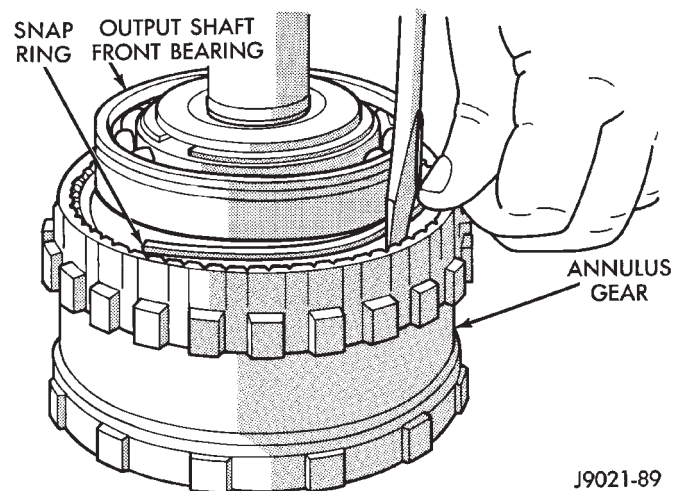

Fig. 277 Annulus Gear Installation
(3) Install annulus gear on output shaft, if removed. Then install annulus gear retaining snap ring (Fig. 277).